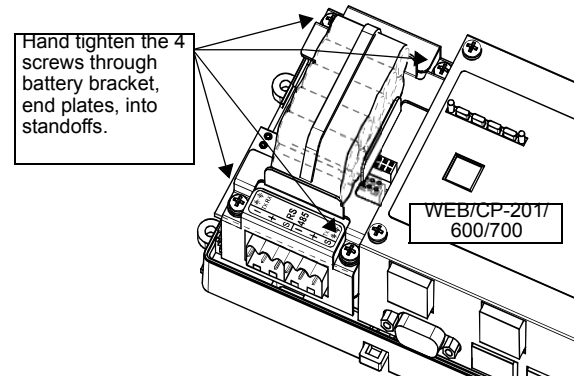

Fig. 5. Re-fasten screws through battery bracket.
11. Place the screws through the end plate(s), and into the standoffs on the base board. Using a screwdriver, hand tighten the screws (see Fig. 5 for location on the WEB/CP-201/600/700).